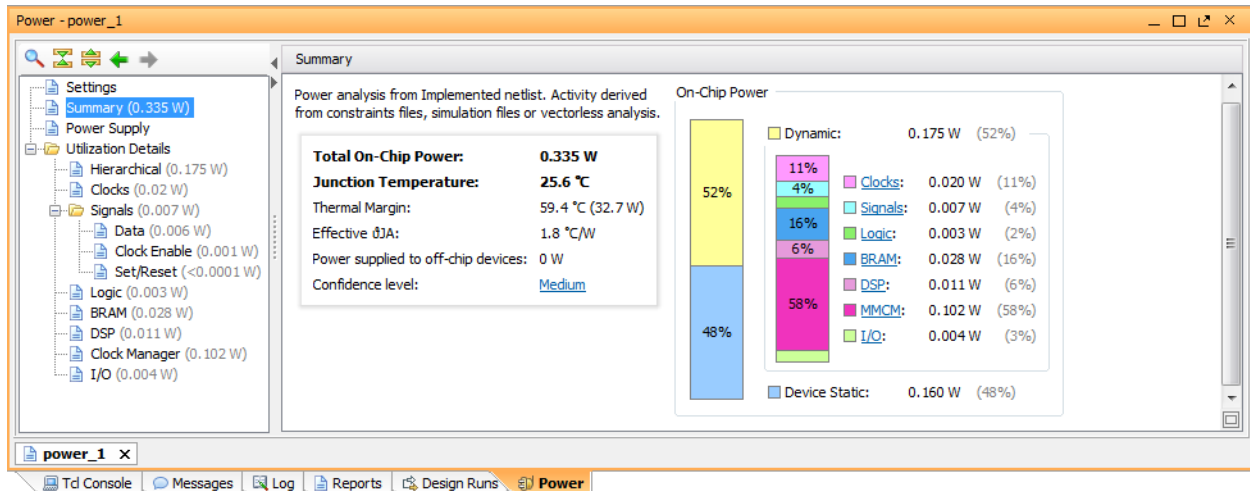

Figure 30: Running Post-Implementation Report Power in Vectorless Mode
3. Note the total power (**Total On-Chip Power**) in the power report **Summary** page (**0.335W** in Figure 30).